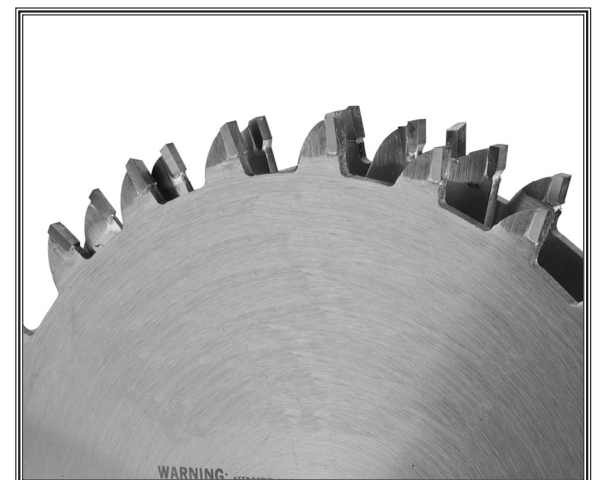

Figure 43. Stacked dado blade.
Dado Blades (see Figure 43):
- **Stacked Dado Blade:** These dedicated dado cutting blade sets consist of up to 8 individual blades. Multiple cutters are "stacked" between two outside blades. The width of the dado is determined by the combination of cutters that are "stacked" together. The dado is cut in a single pass leaving a smooth and square channel in the face of the workpiece. Stacked dado blades are the most expensive option, but are worth considering if your projects require a lot of visible dado cuts. A stacked dado blade is shown in Figure 43.